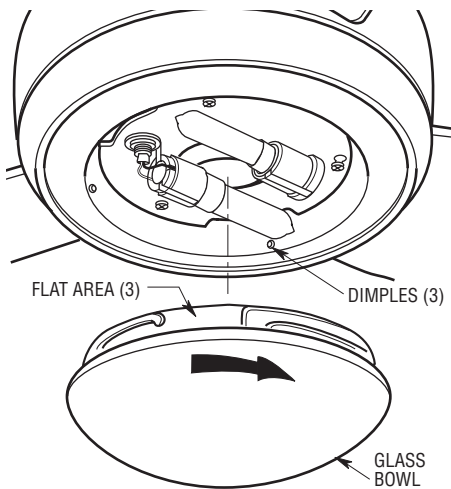

Figure 16
- 2. Place the glass shade into the opening in the fan motor housing assembly, aligning the three flat areas on the top edge of the glass with the three raised dimples on the fan motor housing assembly and turn the glass shade clockwise until it stops (Figure 16).